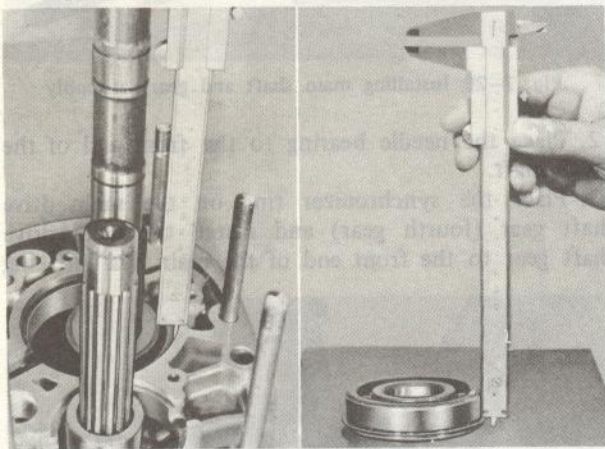

Fig. 7-32 Checking clearance
16. Check the main shaft bearing clearance, proceed as follows: Measure the depth of the main shaft bearing bore in the clutch housing by using a depth gauge. Then, measure the main shaft bearing height shown in Fig. 7-32. The difference between the two measurements indicates the required thickness of the adjusting shim. The standard clearance is 0 ~ 0.1 mm (0 ~ 0.0039 in). The adjusting shims are available in the following thickness: